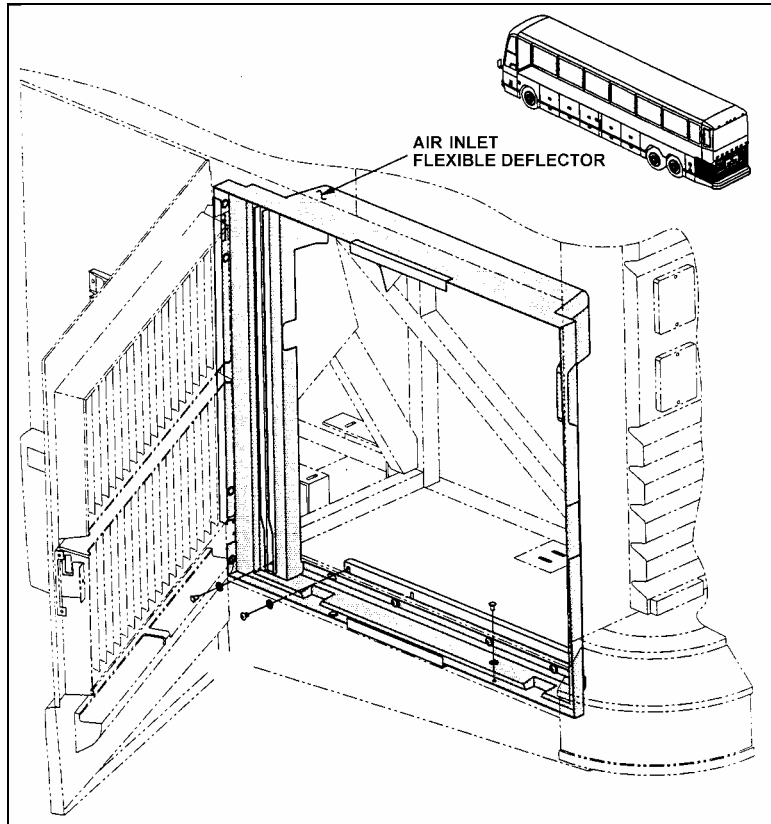

FIGURE 1: RADIATOR COMPARTMENT (H3 Series)
1. Open radiator compartment door (refer to fig. 1).